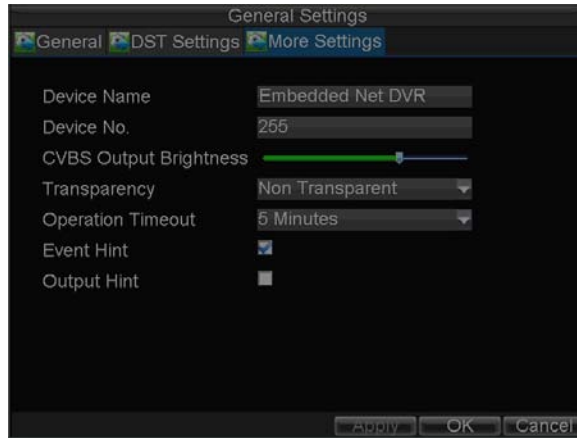

Figure 2. More Settings Menu
2. Click the **More Settings** tab to enter the More Settings menu, shown in Figure 2.